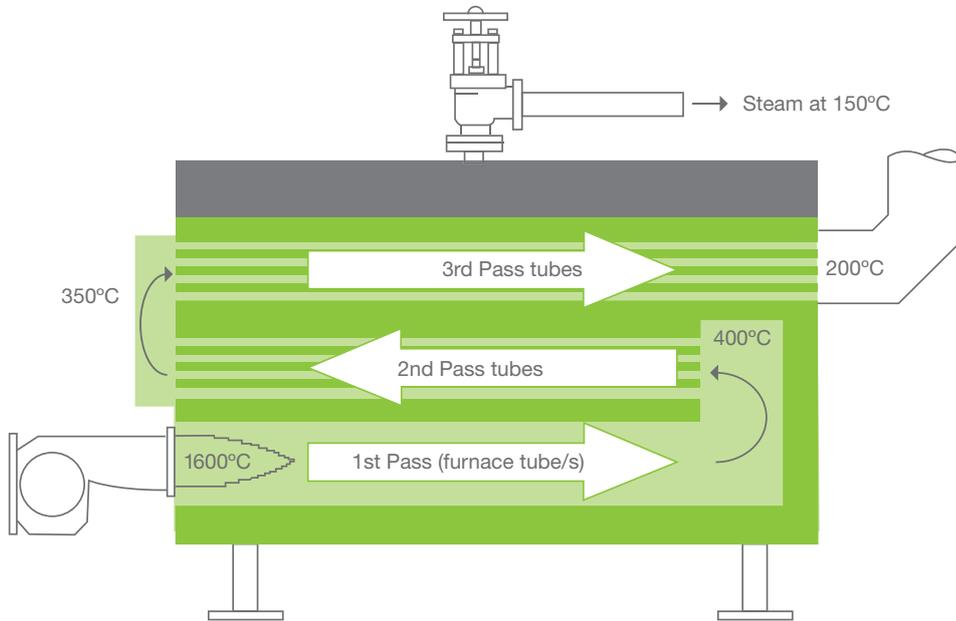

Figure 5: Typical flow path through fire-tube shell boiler.8
**Fire tube boilers:** There are many different types of boilers and it is not possible to show them all here. Figure 5 illustrates the typical flow path for the combustion gases and the likely temperatures in a typical fire-tube boiler installation. In these boilers, the combustion gases from the burner flow through the inside of the tubes, with the water that will be boiled to steam on the outside of the tubes.